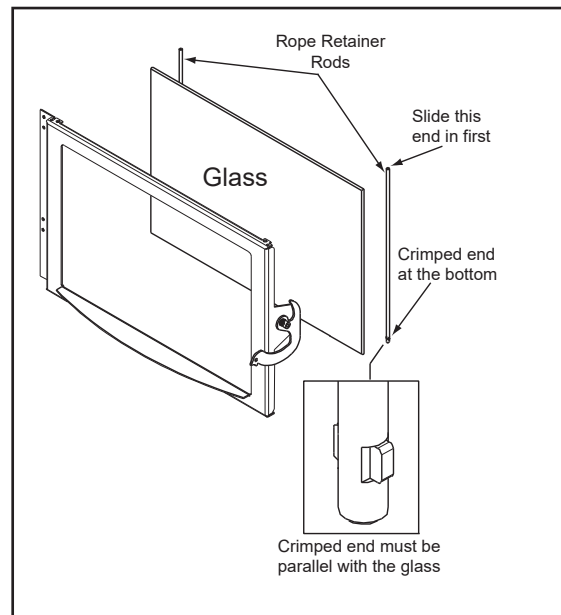

Figure 28.2
- e. Slide the retainer rod into the top hole first, and then line up the bottom crimped end with the hole in the door. The crimped end must be parallel with the glass in order to insert it into place (**Figure 28.2**).